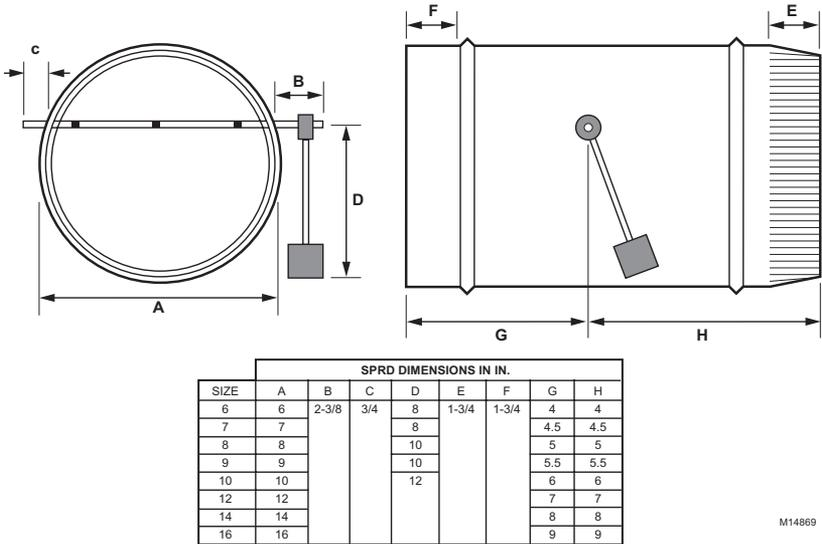

Fig. 2. Round damper dimensions in in.
1. Install a duct collar into the duct. See Fig. 2 for damper dimensions.